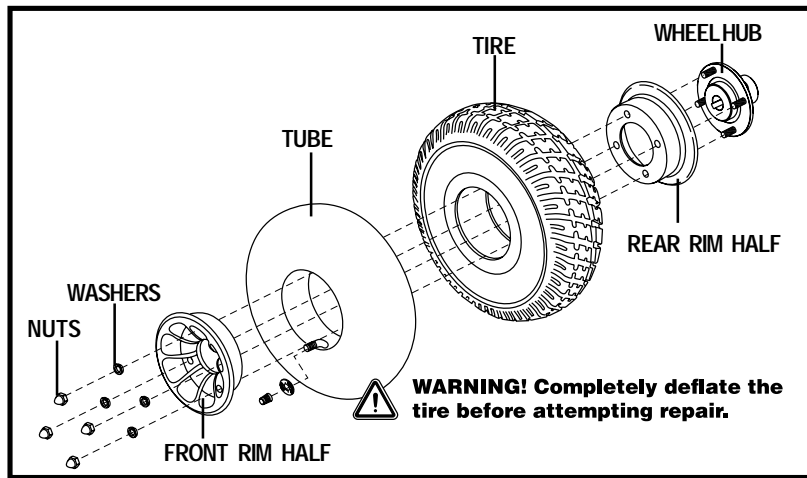

Figure 34. Jazy 1103 Ultra Drive Wheel Disassembled
7. Remove the old tube from the pneumatic tire and replace it with a new tube or replace the entire assembly if it is a solid tire. See figure 34.